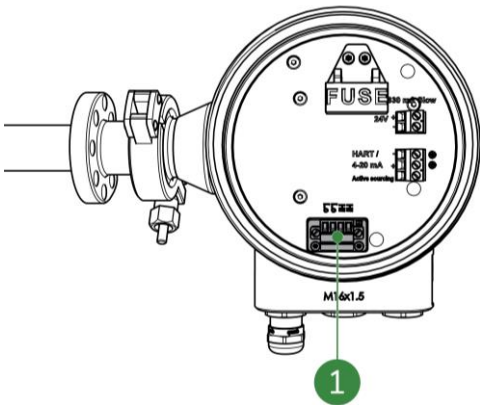

Figure 5-27: PT100 connector
7. Click the block-form connector onto the PT100 connector (Figure 5-27, pos. 1) on the back plate.